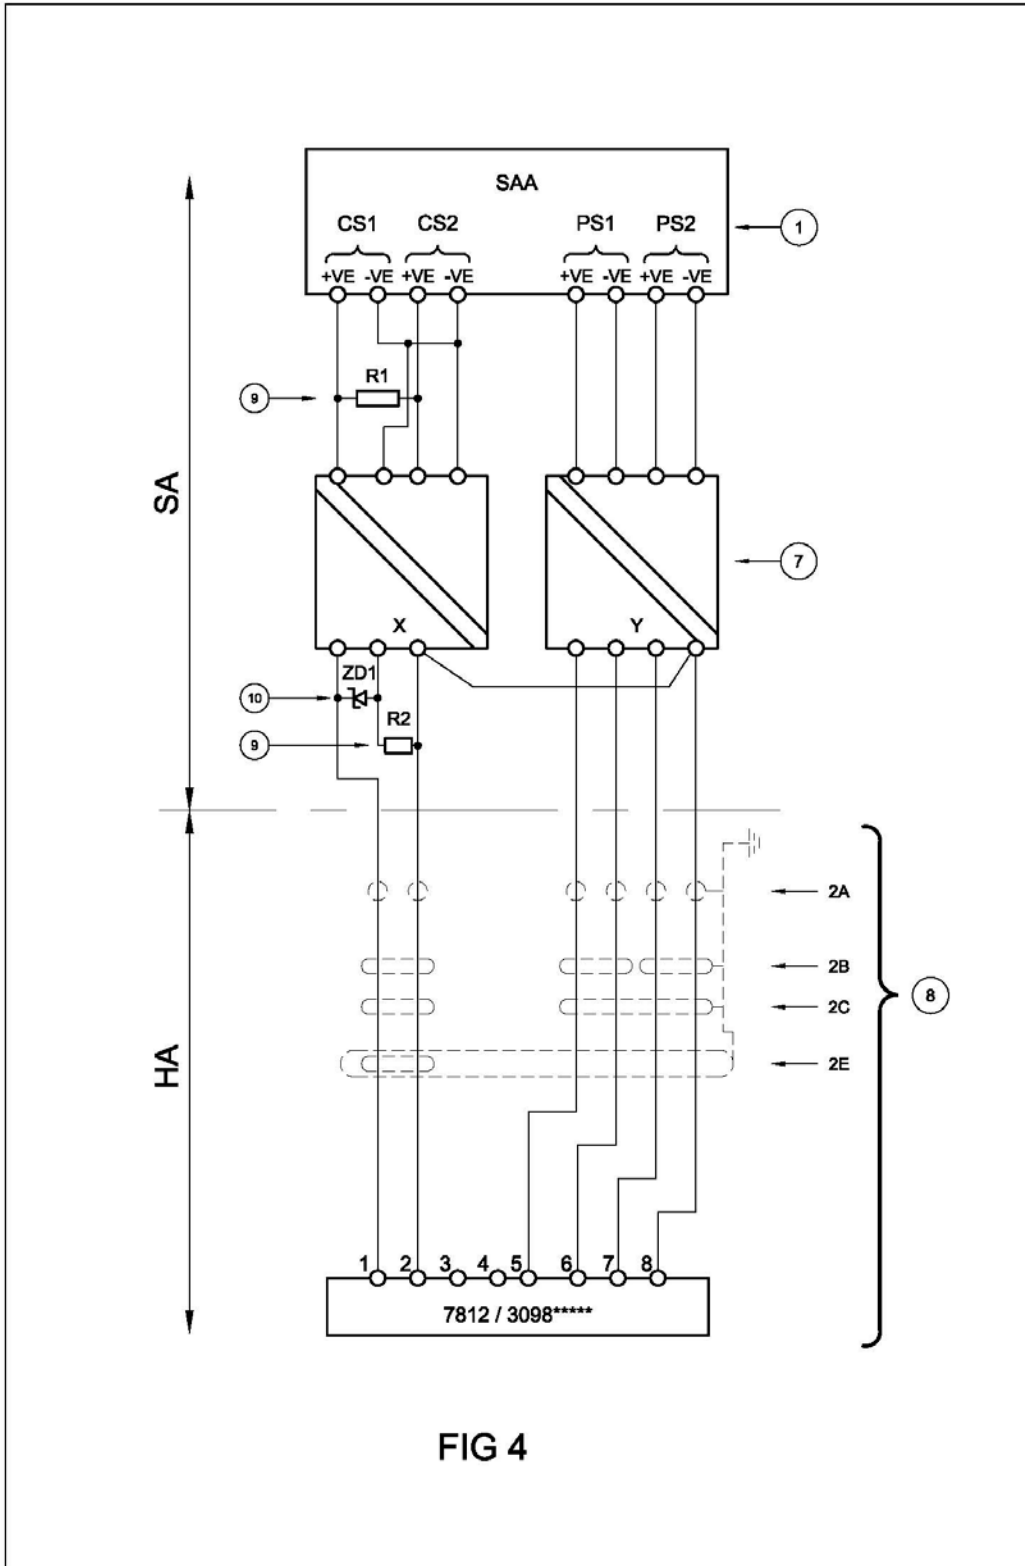

FIG 4
- Fig 4;- System wiring for 2 wire Isolating Interface Units